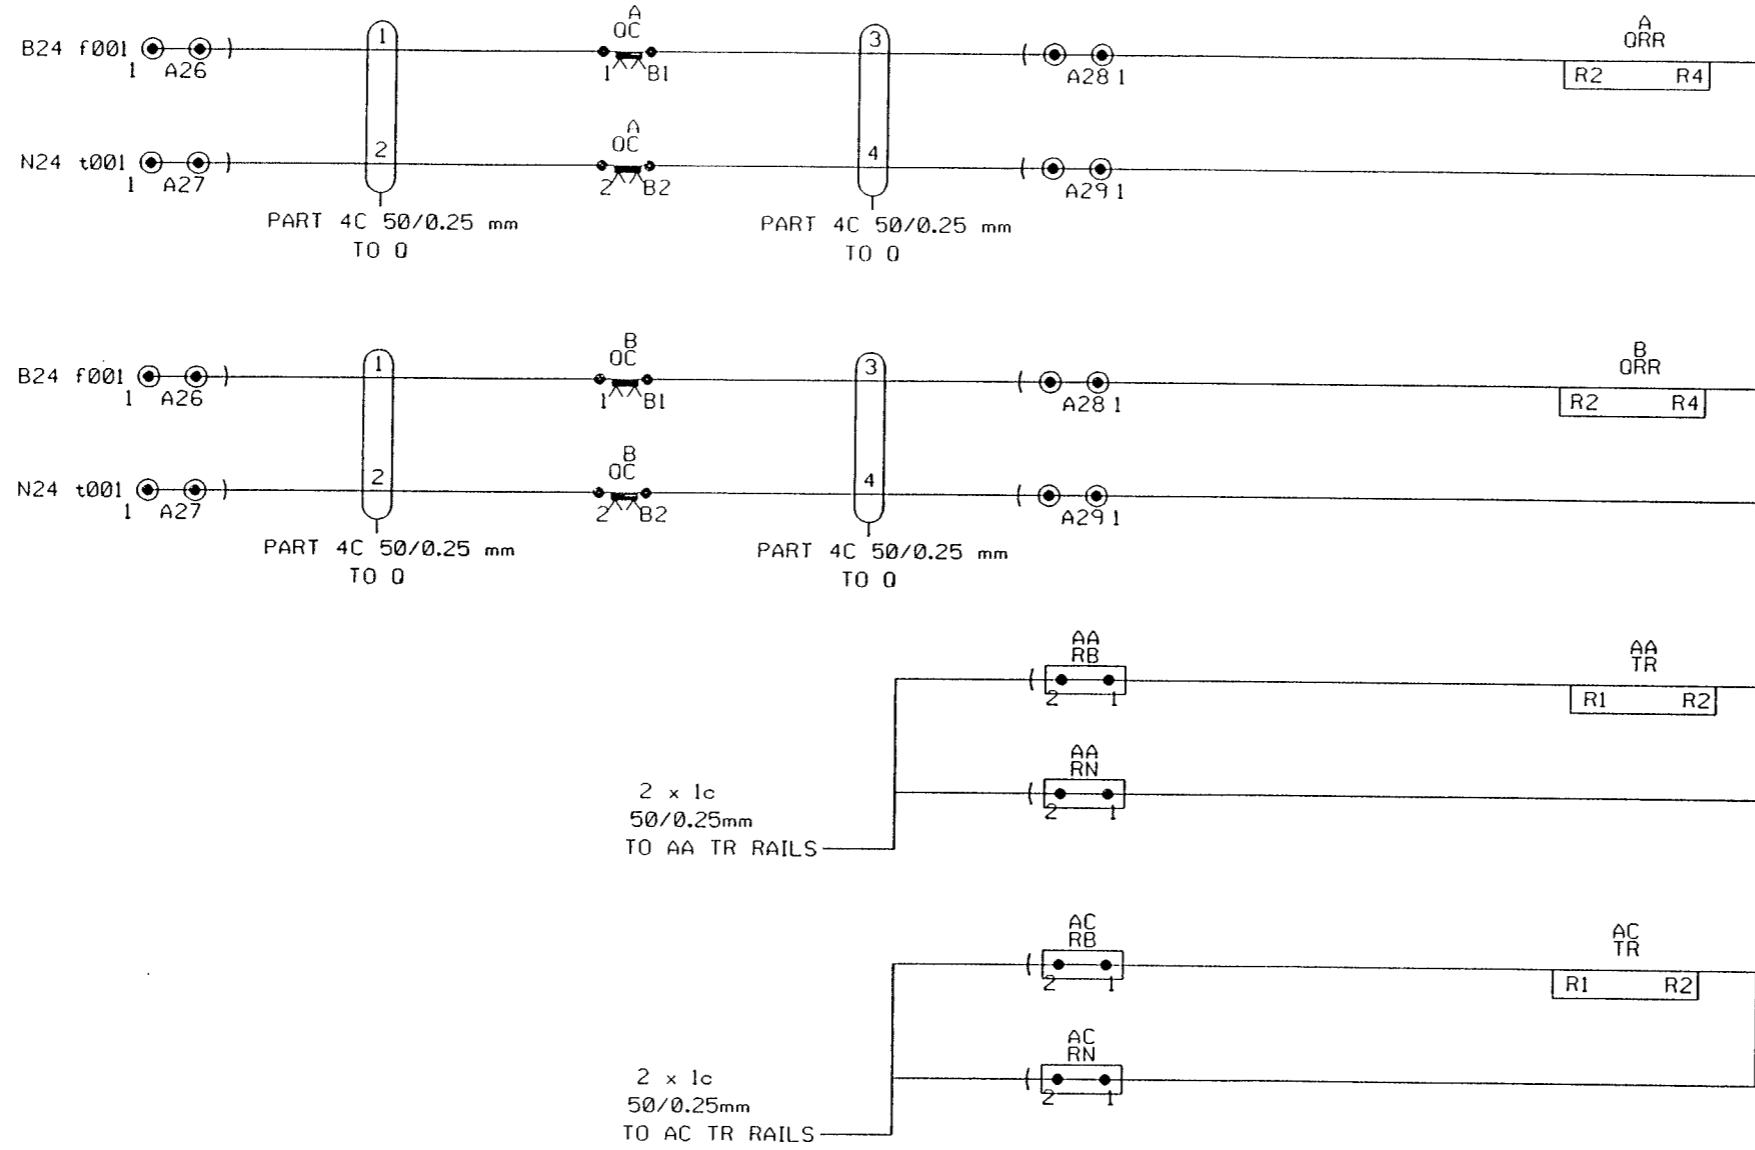
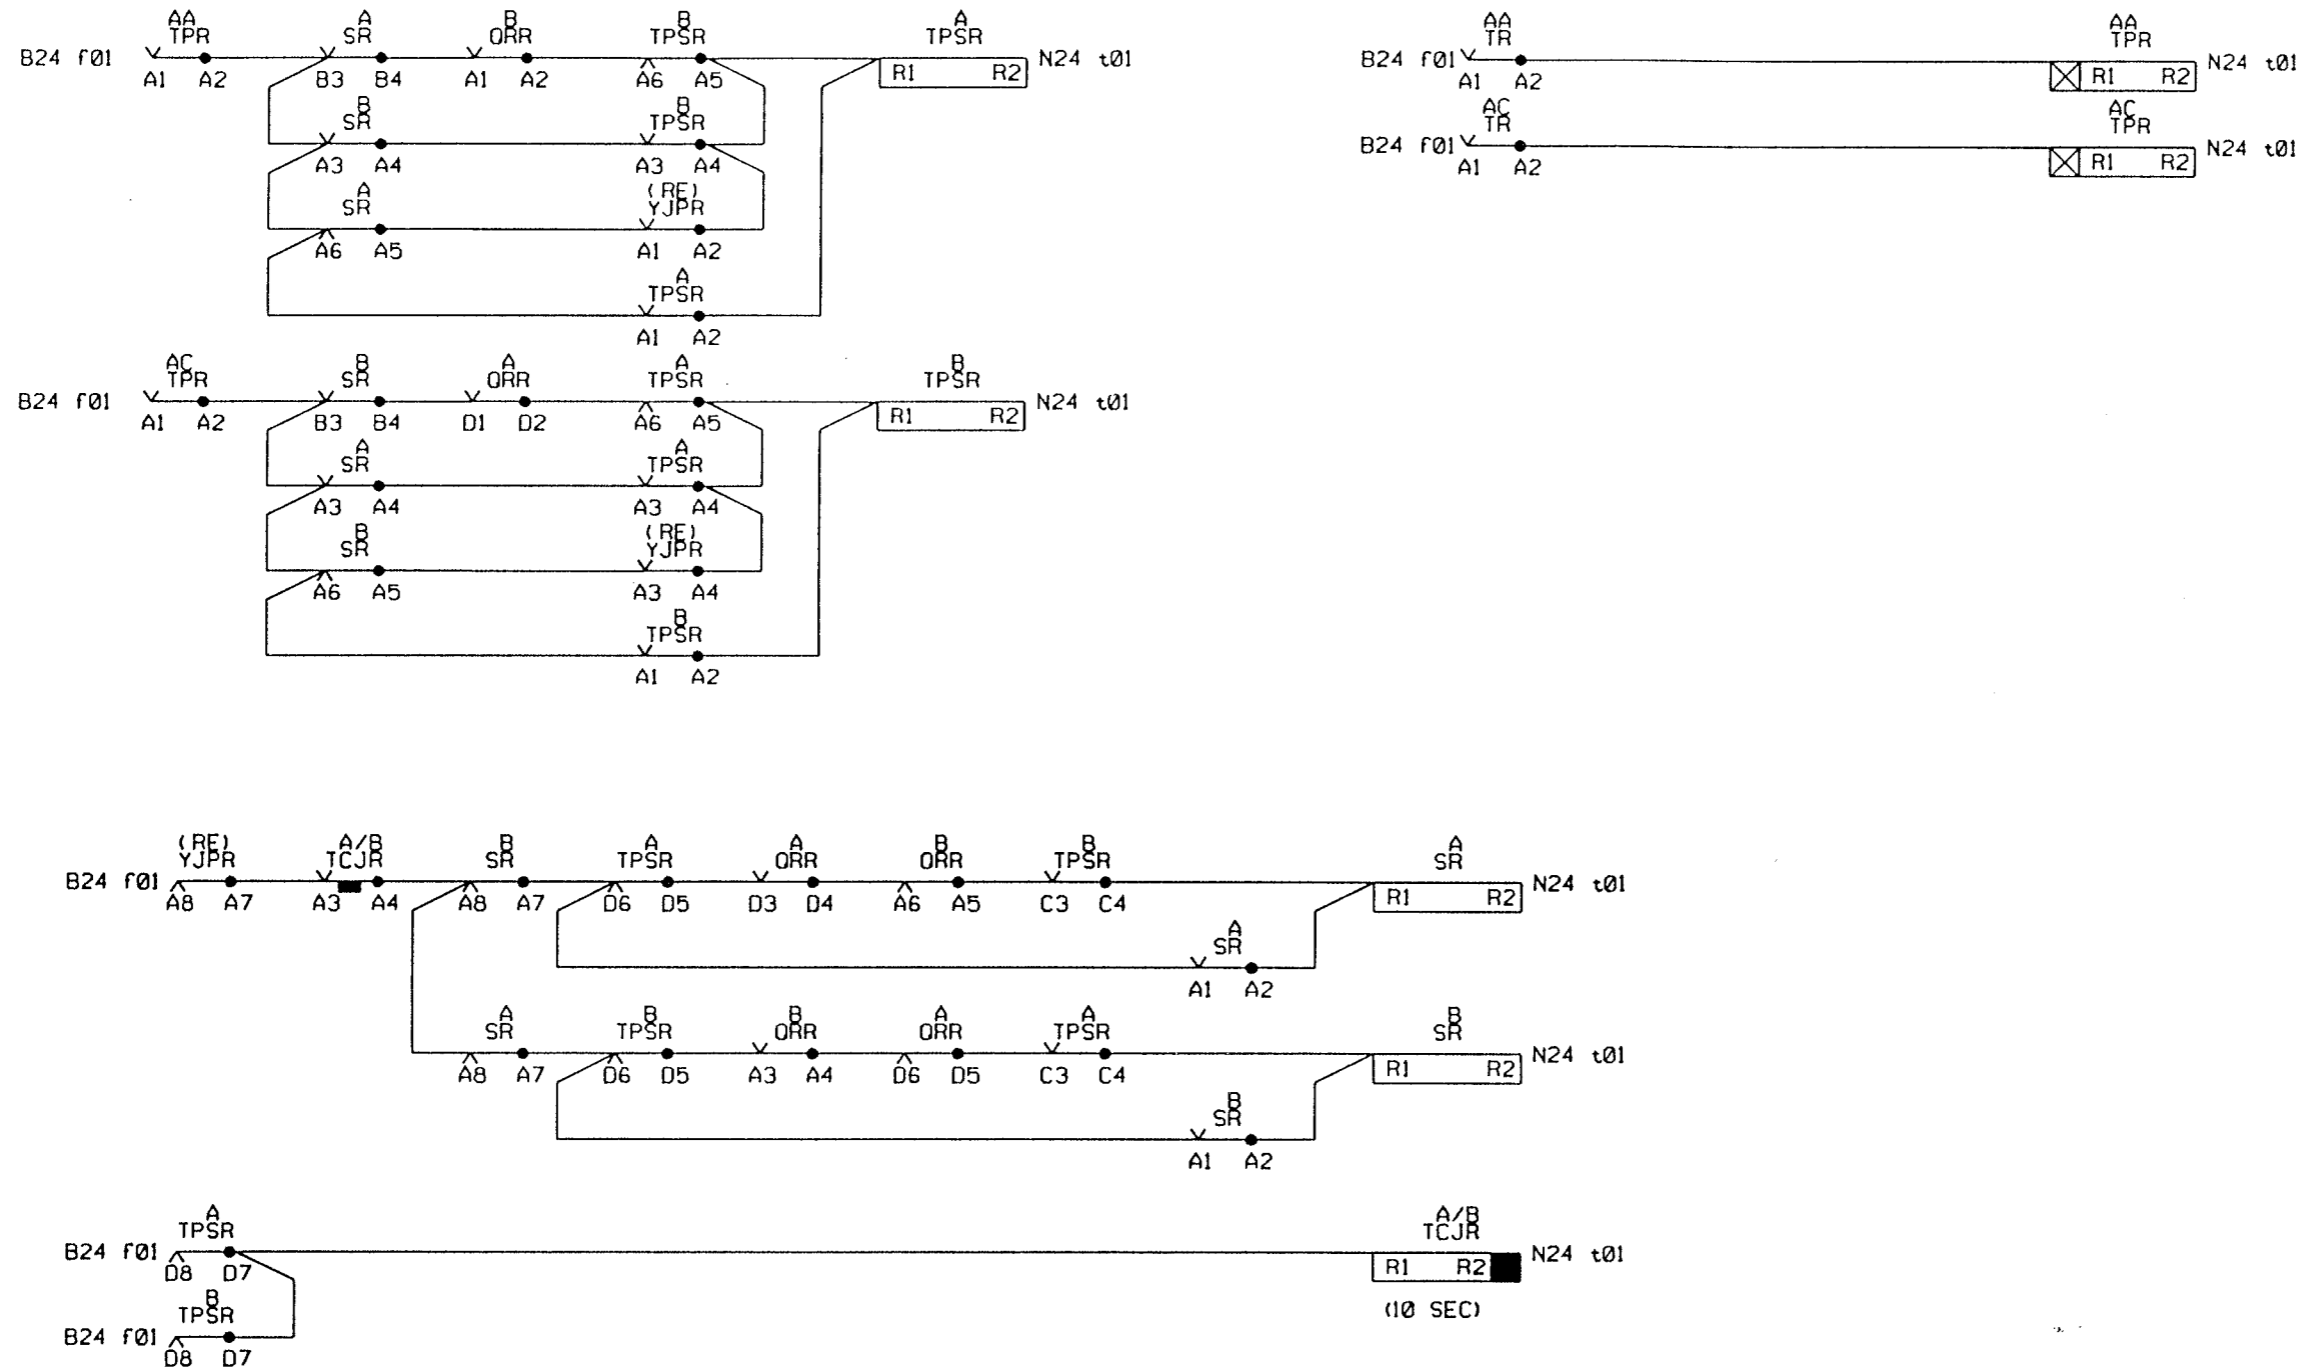

FIGURE 7
FIGURE 8
The front of the train strikes the "A" treadle and energises AQRR (Fig 7). AQRR energised will complete the circuit to A SR (Fig 8) which energises and sticks, thus establishing the direction of initiation. As the train proceeds and occupies the crossing exit track circuit AC it de-energises AC TR (Fig 7), ACTPR and B TPSR (Fig 8). The de-energised B TPSR will de-energise the (DN) (DWL)R (Fig 14), which will replace the train drivers flashing white light signal to a flashing red light signal.
A TPSR now energises over AA TPR, A SR, and BQRR energised, B TPSR de-energised (Figure 8). When A TPSR energises, it completes the circuit to the (CON)SR (Figure 9) via:-